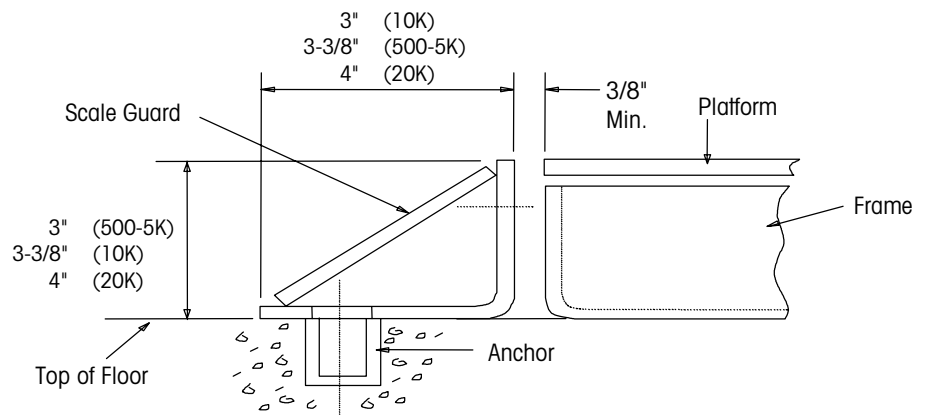

Figure 5-1: Scale Guard Installation Detail
3. Insert the 1/2" anchor bolts and tighten them to secure the scale guard to the floor (see Figure 5-1).